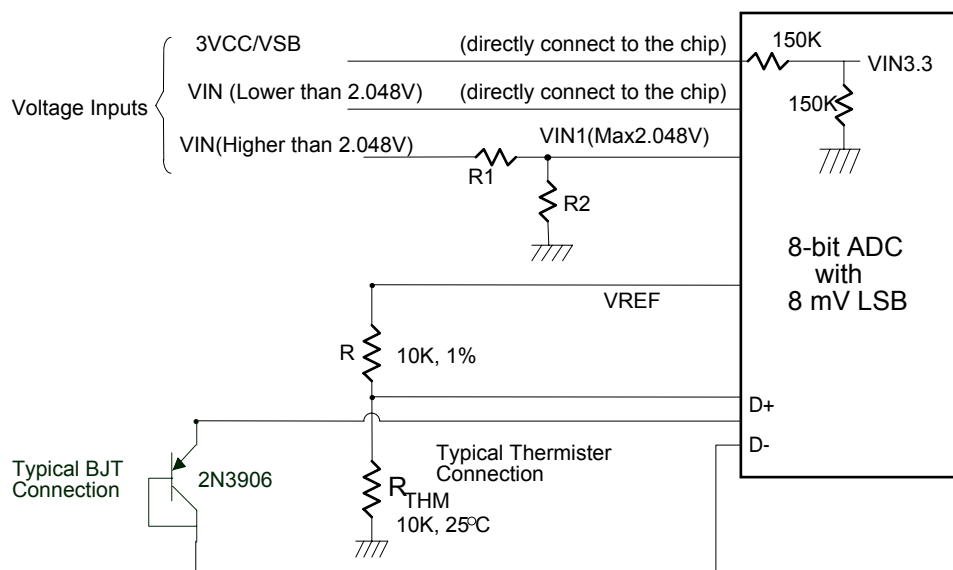

Fig 7-1
The F71862 can connect three thermistor to measure environment temperature or remote temperature. The specification of thermistor should be considered to (1) β value is 3435K (2) resistor value is 10K ohm at 25°C. In the Figure 7-1, the thermistor is connected by a serial resistor with 10K ohm, then connected to VREF.
Also, if the CPU, GPU or external circuits provide thermal diode for temperature measurement, the F71862 is capable to these situations. The build-in reference table is for PNP 2N3906 transistor. In the Figure 7-1, the transistor is directly connected into temperature pins.